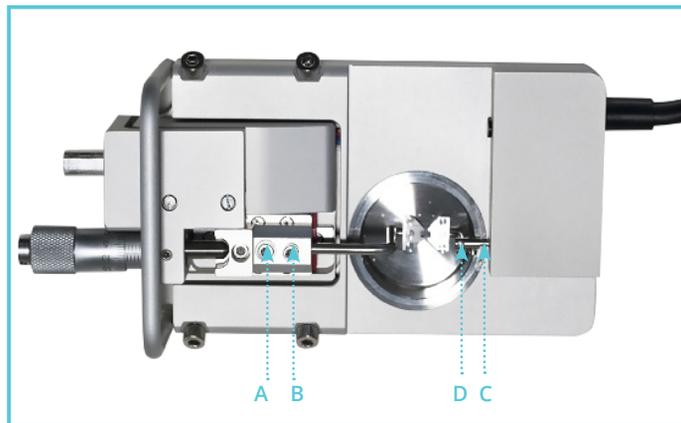

Figure 4.1 Myograph unit - screws for changing supports and coarse adjustment of the jaws
4.1.1 CHANGING THE SUPPORTS (FIGURE 4.1):
4.1.2 COURSE-ADJUSTING THE JAWS FOR SMALL VESSELS (FIGURE 4.1):